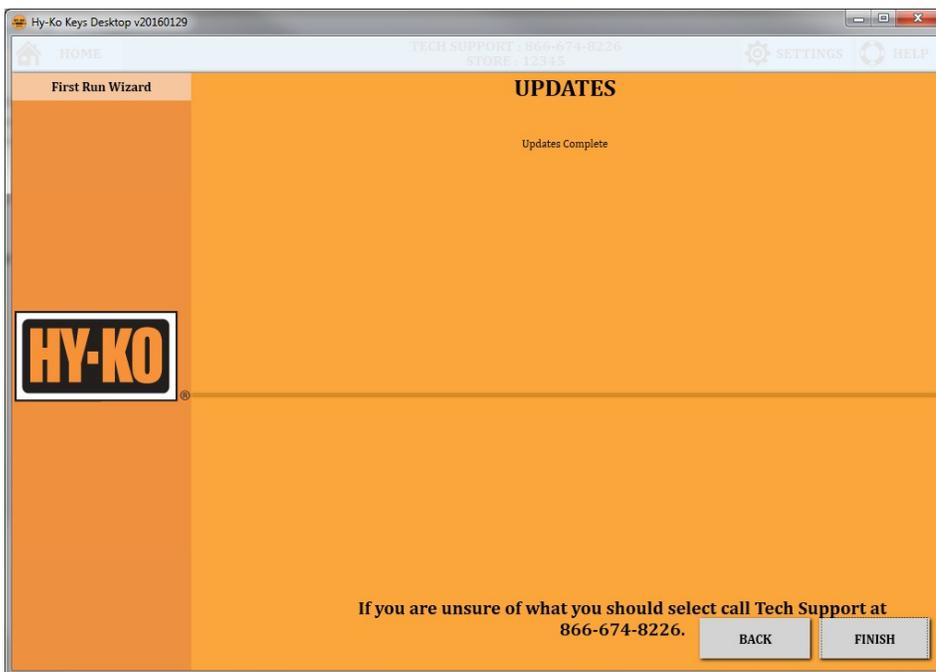

fig. 12
- Once all the files have been downloaded click '**FINISH**' (see fig. 12).